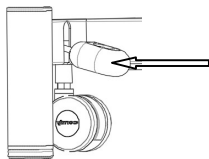

Figure 1
- Push the control rod down (it is recommended to use your feet to push) to activate the casters. When the casters are on the ground the table is in a moving status.(Figure 1)
- Push the control rod up (it is recommended to use your feet) and the casters are in the retracted status. When the casters are retracted the table is in a fixed position.(Figure 1)